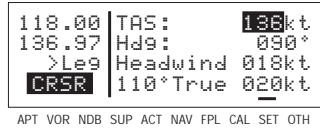

Figure 4-72
2. Enter the aircraft's true airspeed by using the right inner knob (figure 4-72). If the CAL 5 page was previously used to calculate true airspeed, it will already be displayed.